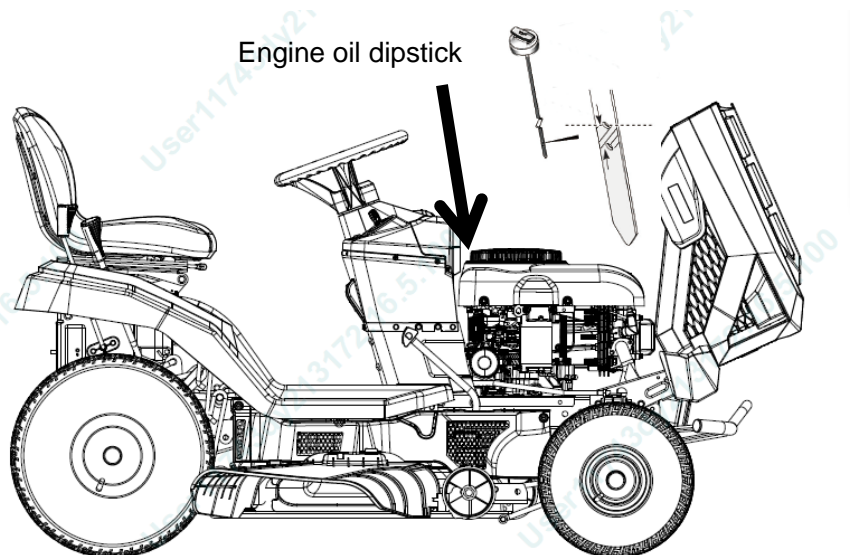

Fig.12
2. Remove the dipstick (Fig.12). Remove the remaining oil from the dipstick.
7. If the oil level is LOW, add oil to the oil fill tube (Fig. 12). We recommend AL-KO motor oil, art. no. 112901.